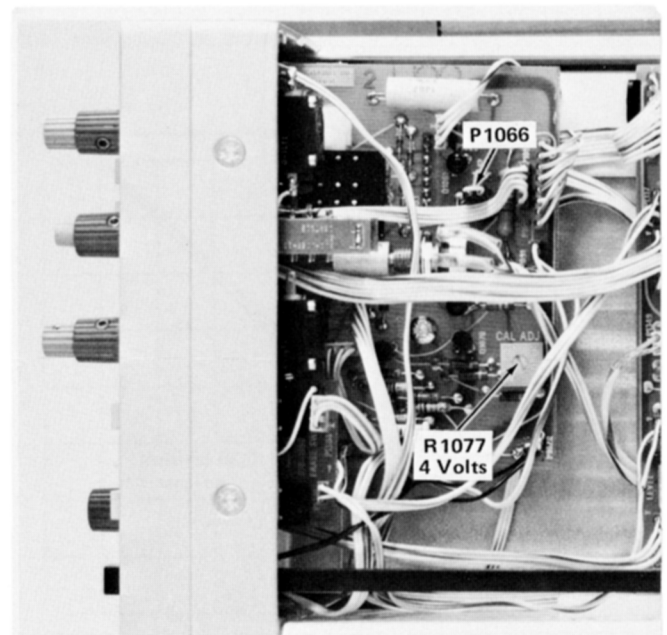

Fig. 2-8. Location of Calibrator adjustments (Calibrator board).
a. Change jumper P1066 (see Fig. 2-8) to the DC position.
d. ADJUST—4 Volts adjustment R1077 (see Fig. 2-8) for a meter reading of exactly 4 volts.
a. Change jumper P1066 (see Fig. 2-8) to the 1 kHz position.